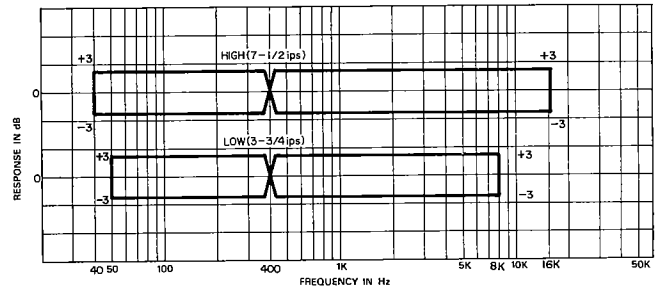

Fig. 8-11 Frequency Response - OVERALL - 2
24. Repeat the above procedure for HIGH, using a signal swept from 40 Hz to 18 kHz. Refer to Response Limits in Fig. 8-11 below.